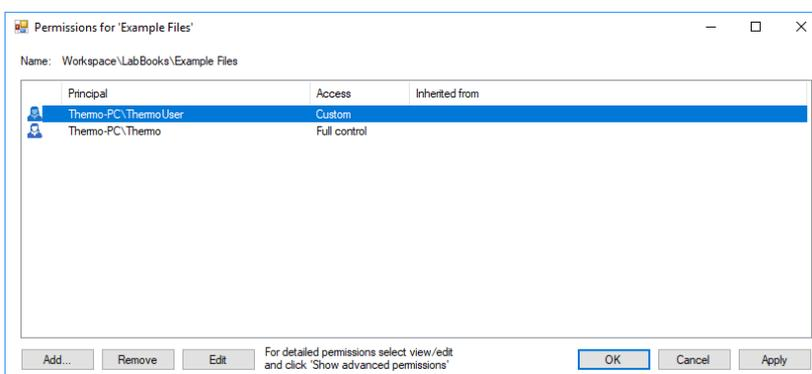

Figure 4-75. Permissions dialog with list of principals
3. Right-click the folder and select **Permissions**. The Permissions dialog (see Figure 4-75) shows the currently defined access rights and optionally where the permissions are inherited from.